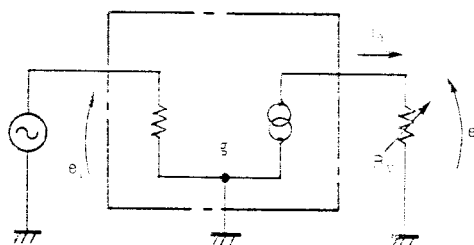

Fig. 7.
In TA-AX7, the input voltage signal is converted once to a current signal, and the signal is transmitted by changing it back to voltage form through a resistor. Gain control is accomplished through this variable resistor. In Figure 7, if V-I amp input is e_i (V) and output current is i_o (A),